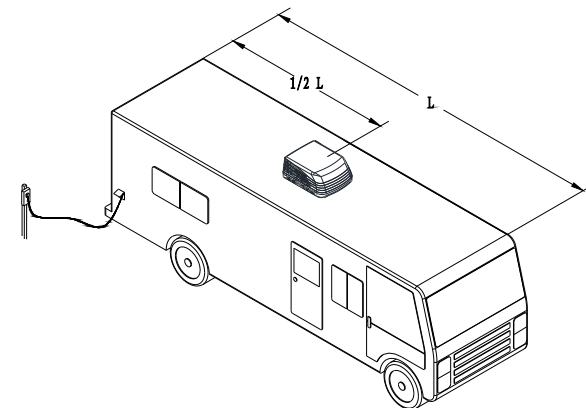

FIGURE 1
1. For one unit installation: The air conditioner should be mounted slightly forward of center (front to back) and centered from side to side. See FIG. 1.